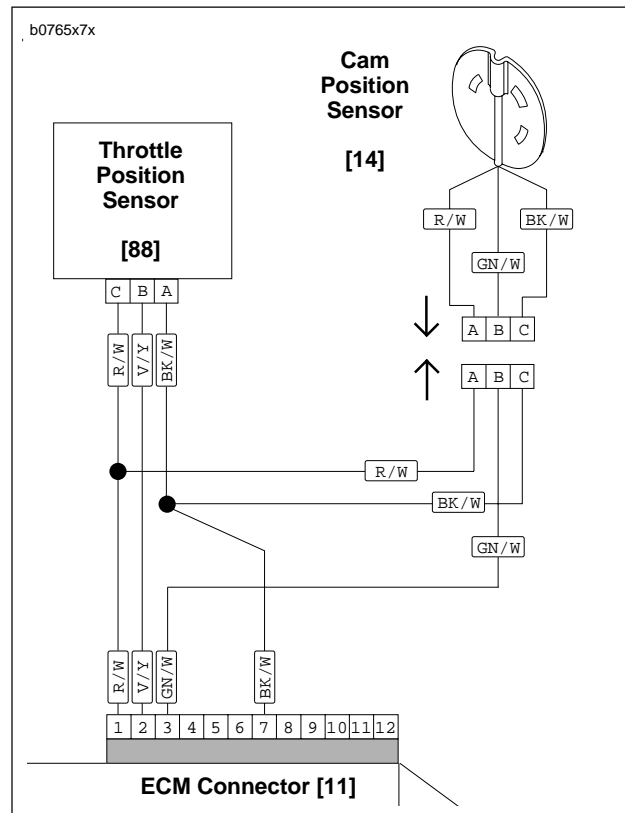

Figure 4-181. Connecting Sensor Wires
2. Install trigger rotor (17).
- a. Apply LOCTITE THREADLOCKER 243 (blue) to threads of bolt (18).
- b. Position trigger rotor (17) onto end of camshaft aligning notch with camshaft slot.
3. Install cam position sensor (19) and timer plate studs (4). Rotate cam position sensor to its previously marked position to obtain approximate ignition timing.
5. See Figure 4-181. Install sensor wiring terminals in correct positions in plug end of connector [14]. R/W, GN/W and BK/W wires of plug end (from cam position sensor) must match same color wires in receptacle end of connector (from ignition module wiring harness). Install pin terminals. See B.2 DEUTSCH ELECTRICAL CONNECTORS under B.1 AMP MULTILOCK ELECTRICAL CONNECTORS.